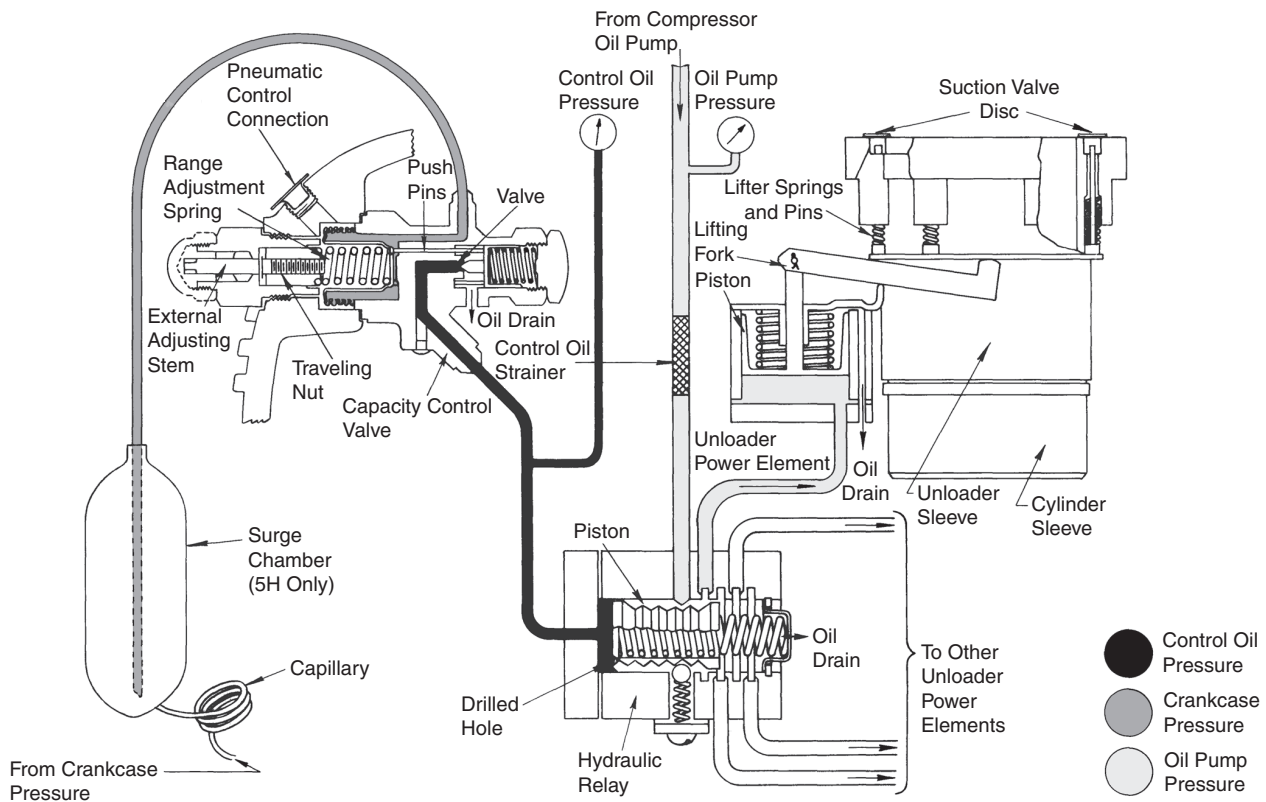

Fig. 5 — Capacity Control — 5F40/60; 5H40, 46, 60, 66, 80 and 86
- 5F40 through 5H86 legacy models and 5H40 through 5H86 new production pressure unloading models (see Table 2) have a pressure control valve internally installed on the oil pump bearing head. The pressure control valve is manually adjusted to direct compressor oil to the unloader power element(s) to unload and load the compressor’s cylinders at defined suction pressures for capacity control. (See Fig. 5 and Fig. 7.)
- Legacy 5H40 through 5H86 compressor models that use an external electric unloading conversion kit or apply pressure unloading can be retrofitted with a new electric unloader bearing head, allowing the compressor to be electrically unloaded per Fig. 5. (See Carlyle retrofit instruction 0AHA001431 and retrofit kit P/N 6AH001439.)
CAPACITY CONTROL FOR 5F40 THROUGH 5H86 (FIG. 5)
Adding a control air line to the external pneumatic control connection permits pneumatic resetting of the control point in accordance with changes in operating conditions. Each pound of change in air pressure resets the control one pound in the same direction. Thus, a one-pound rise in air pressure will cause unloading to begin at a suction pressure one pound higher than the original control point, etc. Figure 5 shows a typical pneumatic control arrangement. All components and installation instructions are field supplied.